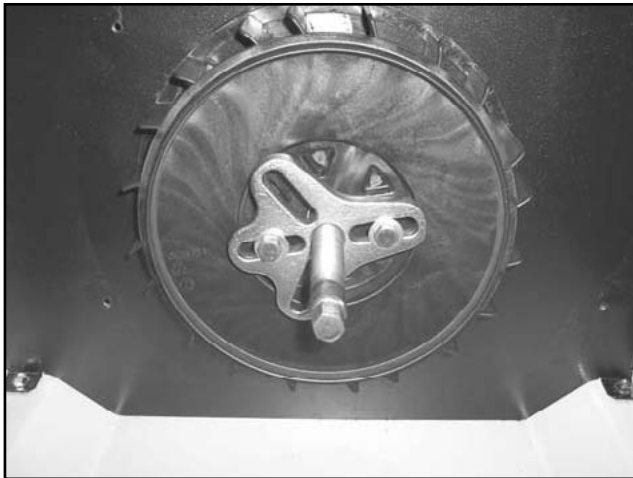

Figure 32.
9. Remove Fan: Attach a steering wheel puller to the fan using two M8 x 1.25 bolts. Remove the fan from the rotor. Figure 32.